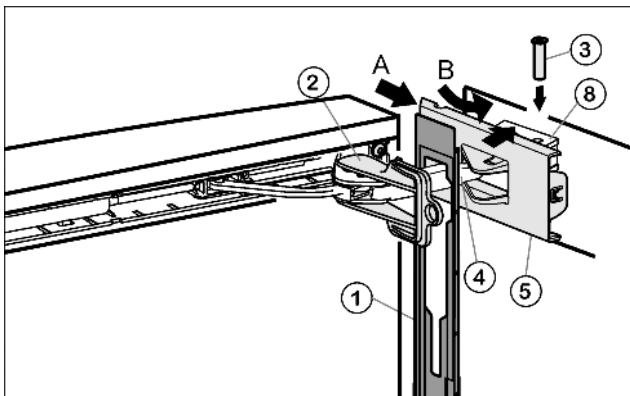

Fig. 26
- ▶ Hook panel Fig. 26 (1) into the damper bracket Fig. 26 (4) such that the detent hooks are pointing inwards and the front side is facing the appliance.
- ▶ Push on cover Fig. 26 (5) from the outside (A) and pivot over the bearing part Fig. 26 (8) (B).
- ▶ Place cover Fig. 26 (5) on top and allow to snap into place until the first notch.
- ▶ Pull damper bracket Fig. 26 (4) towards bearing part and insert bolt Fig. 26 (3) from above such that the square is resting in the recess.
- ▶ Now snap cover Fig. 26 (5) completely into place on the bearing part Fig. 26 (8).
- ▶ Remove locking device Fig. 26 (2) by twisting it.
- ▶ Snap panel Fig. 26 (1) into place on the door.